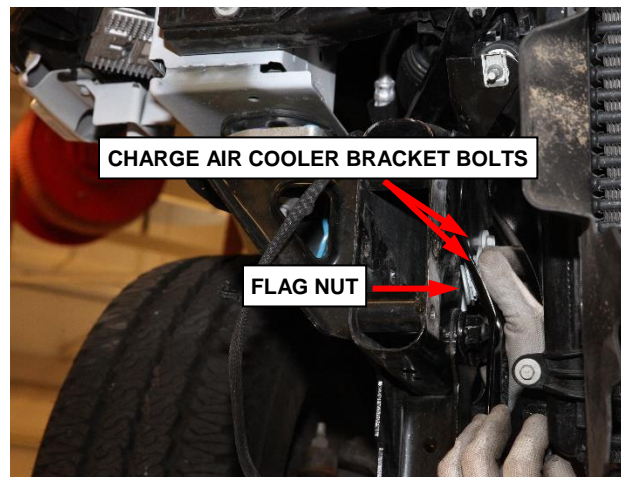

Figure 15 – Charge Air Cooler Bracket
24. Install the charge air cooler bracket bolts. Tighten the bolts to 28 N·m (21 ft. lbs.). Repeat this process for the opposite side of the vehicle. (Figure 15).